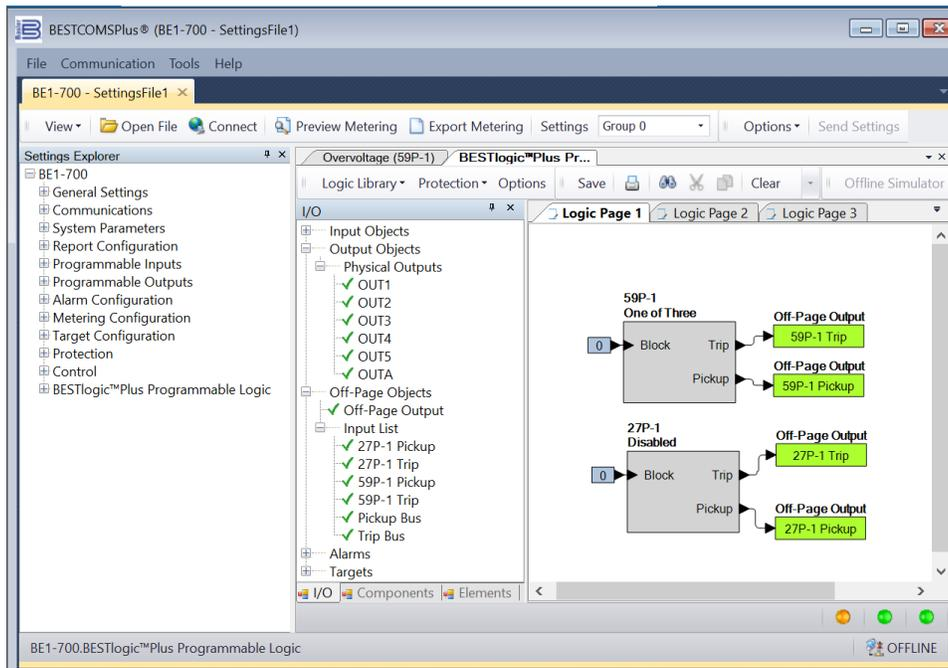

Figure 2-9. BESTlogicPlus Logic Page 1
- Step 9: In the Settings Explorer, click *BESTlogicPlus* Programmable Logic to open the logic diagram. Click the Logic Page 1 tab. See Figure 2-9. Examine the 59P-1 element. The Logic 0 connected to the Block input indicates that the 59P-1 element is never blocked.